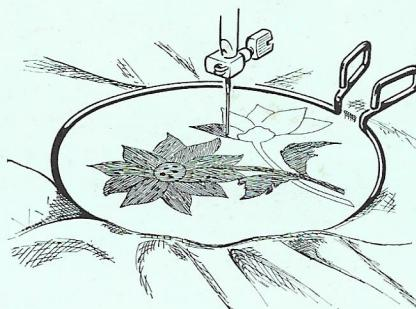

Fig. 40
- Move hoop slowly, but only when needle is out of fabric and holding both threads for the first stitches (Fig. 40).